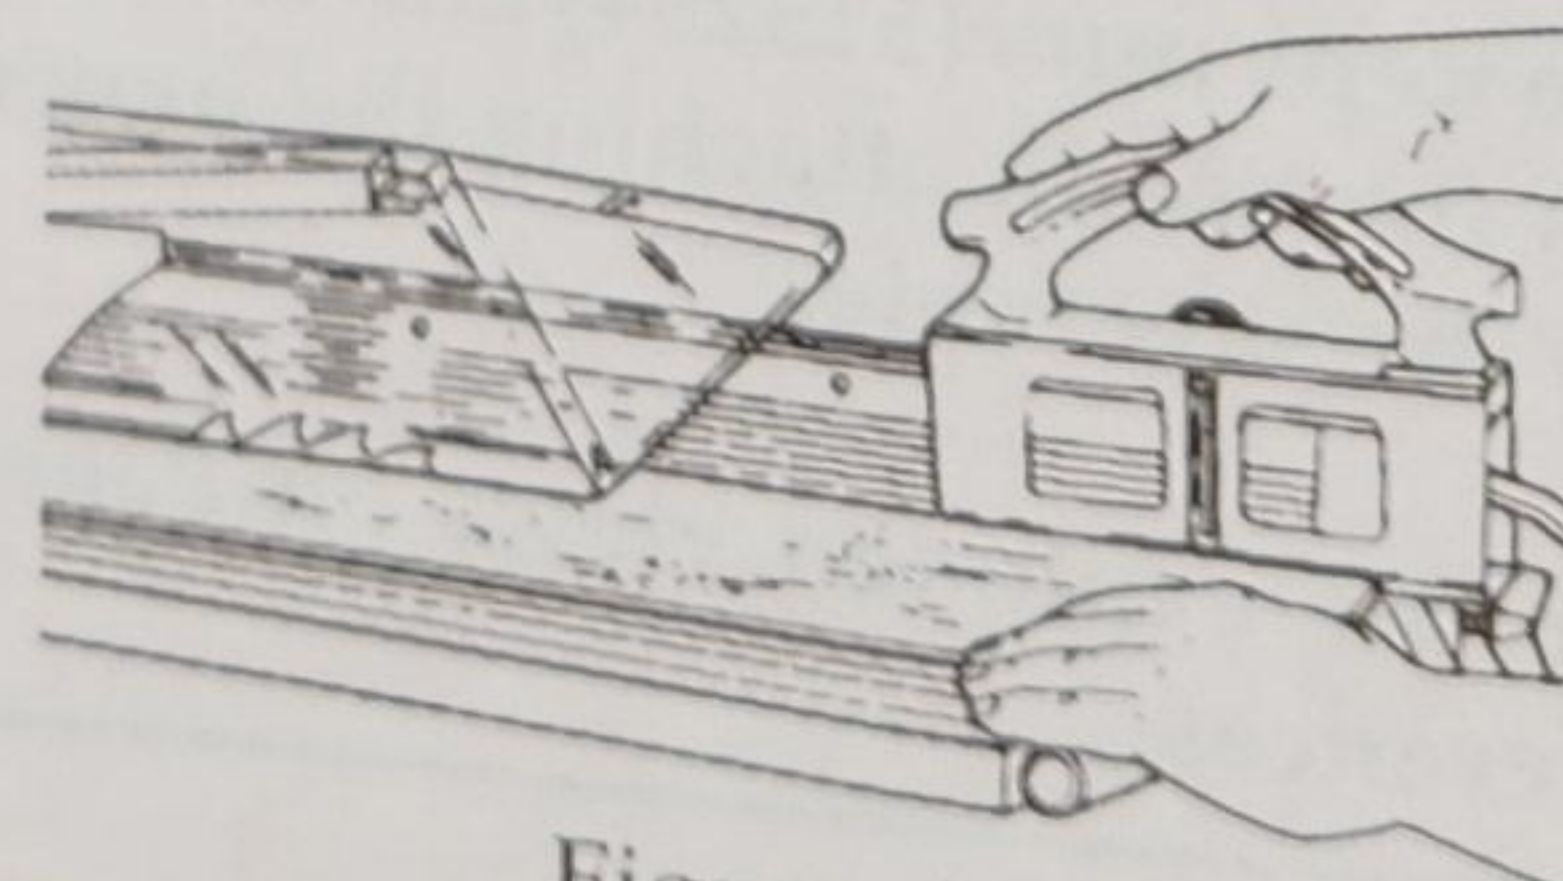

Figure A-3
14. Use the fence straddler to hold down and push stock narrower than 1-1/2" past a saw blade or cutter. The straddle block (26) sits over the fence, while the bottom edge of the slide rail (27) holds down on the stock. To change the height of the slide rail (27), loosen the knob (28). To reverse the slide rail (27) loosen the knob (28) and rotate the slide rail (27) 180°. Adjust the bottom edge of the slide rail (27) firmly on the stock (See Figure A-3). Then tighten the knob (28).